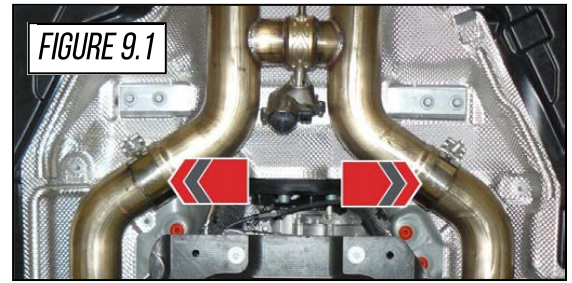

FIGURE 9.1
Install the H-Pipe assembly using two (2) of the included 3" Accu-Seal clamps, shown by the arrows in **Figure 9.1**.